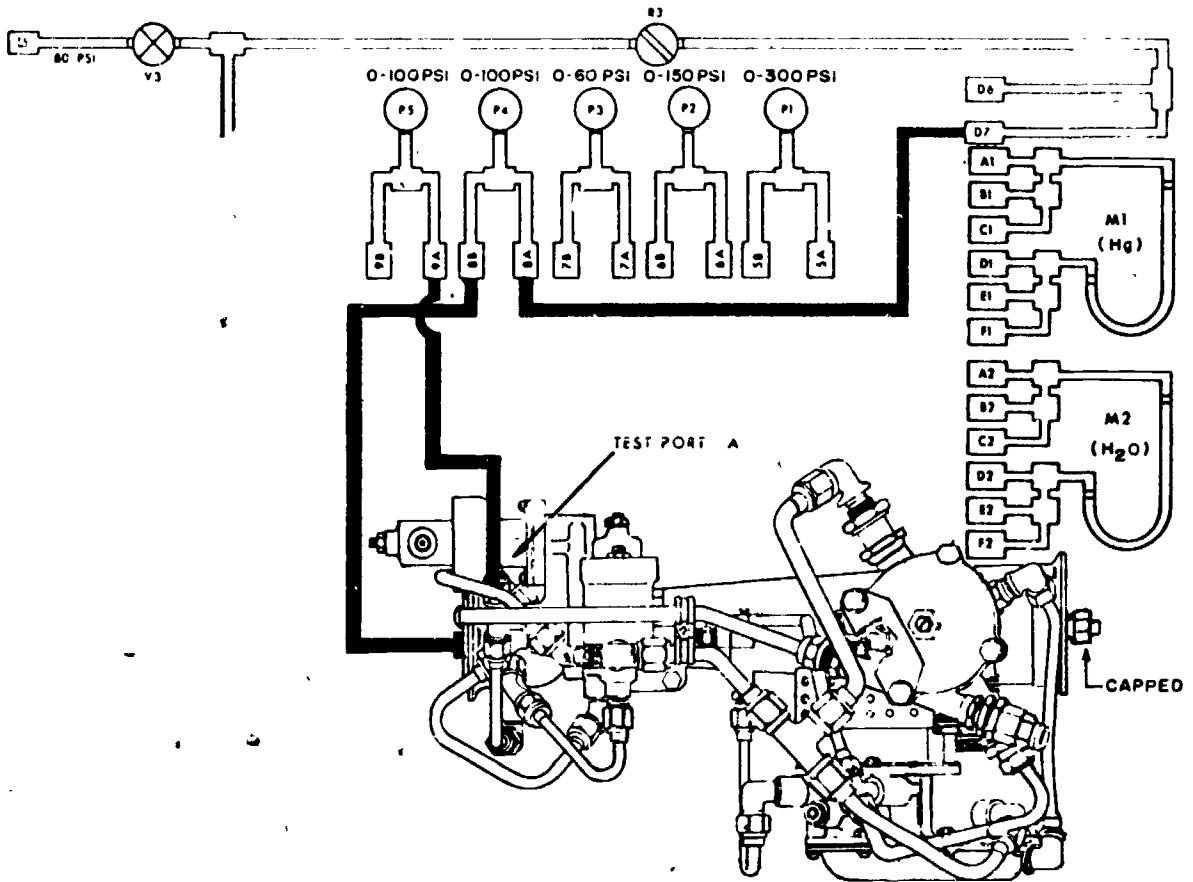

Figure 2.
5. Look at figure 2 when connecting the pneumatic hoses to the trainer pneumatic patching panel (figure 1) and to the valves. The hoses are shown by heavy black lines.